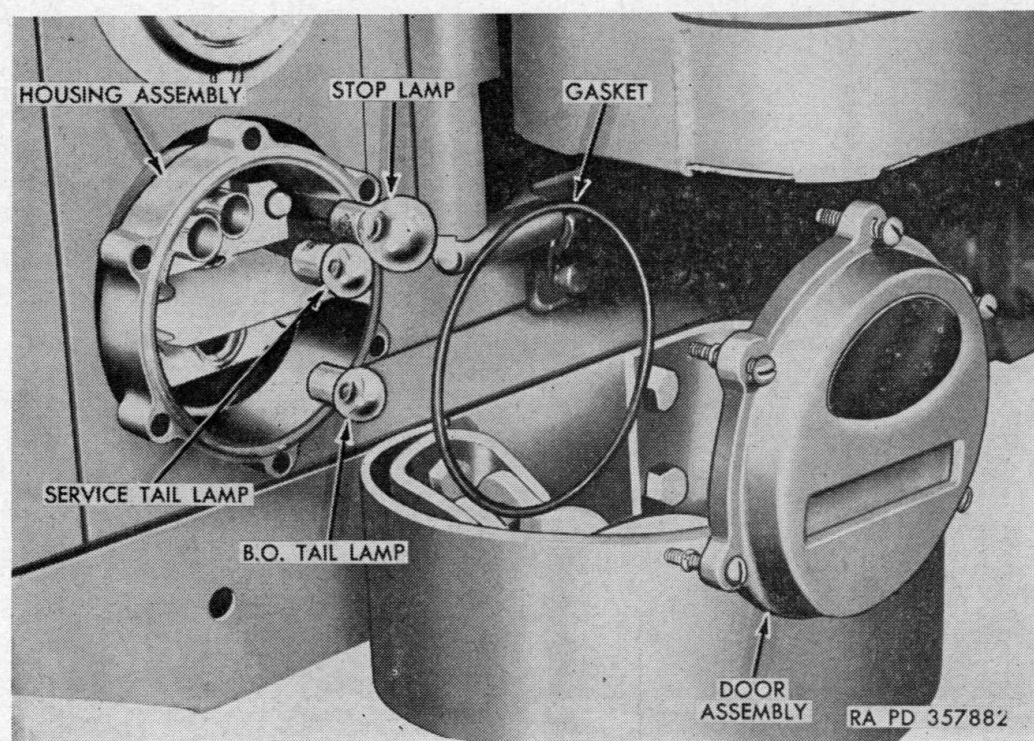

Figure 61. Tail and stop light replacement.
- (5) *Stop and tail lights*. The stop and tail lights (figs. 61 and 62), mounted at rear corners of truck, consist of two waterproof units—right-hand and left-hand assemblies. The right-hand light incorporates a black-out stop lamp in upper portion, and a black out tail lamp in lower portion. The left-hand light incorporates a combination stop and tail lamp in the upper portion, and a black-out tail lamp in the lower portion.
(Figs. 61 and 62)